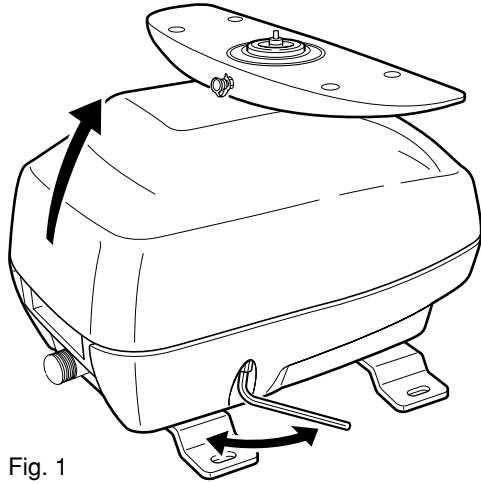
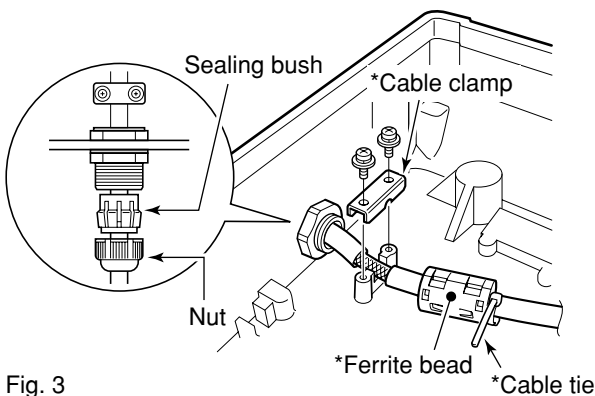

Fig. 1
Fig. 3
- ① Loosen the four bolts using the supplied hex head wrench on the bottom of the scanner unit, and open the unit. (Fig. 1)
- ② Loosen the nut on the scanner unit and pass the system cable through the nut and sealing tube. (Fig. 3)
- ⑥ Clamp the system cable with the cable clamp metal fitting using a screw near the sealing connector. Be sure to clamp it tightly. (Fig. 3)
- ⑦ Clamp the system cable with the ferrite core attached near the sealing connector. Be sure to clamp it tightly. (Fig. 3)
- ⑧ Tighten the sealing-nut (Fig. 3), then replace the radome cover over the scanner unit. (Fig. 1)
- ⑨ Tighten the four bolts on the bottom of the scanner unit. (Fixing torque: 9.8 N•m)